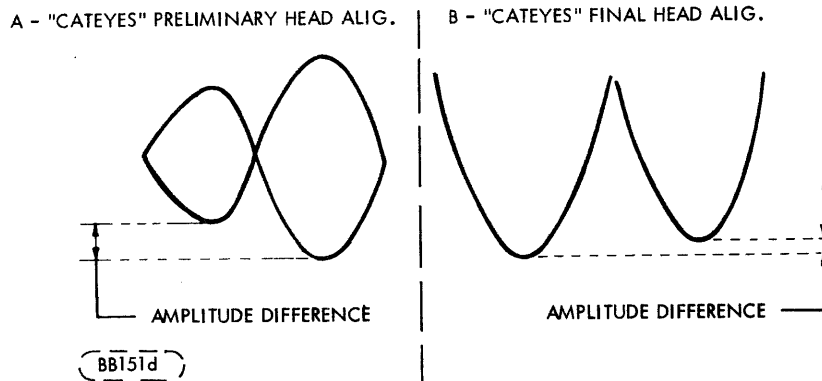

FIGURE 6-8. HEAD ALIGNMENT AMPLITUDE
Scope trace after trigger level is adjusted for repetitive trace should display an envelope of data "Cateyes" consisting of two lobes (refer to Figure 6-8). If no such pattern can be displayed, manually turn the stepper motor shaft extending from the rear of the stepper motor one-quarter turn either way to locate pattern. Then proceed to Step "h."
- g. Change the volts/div of Channel 1 and Channel 2 to 0.02 volts/div. Move the trace on the scope (Position Knob) up until the bottom of the two lobes are setting approximately on the base line (refer to Figure 6-8). For an acceptably aligned unit, the voltage ratio of the smaller lobe to the larger lobe should exceed 80%.